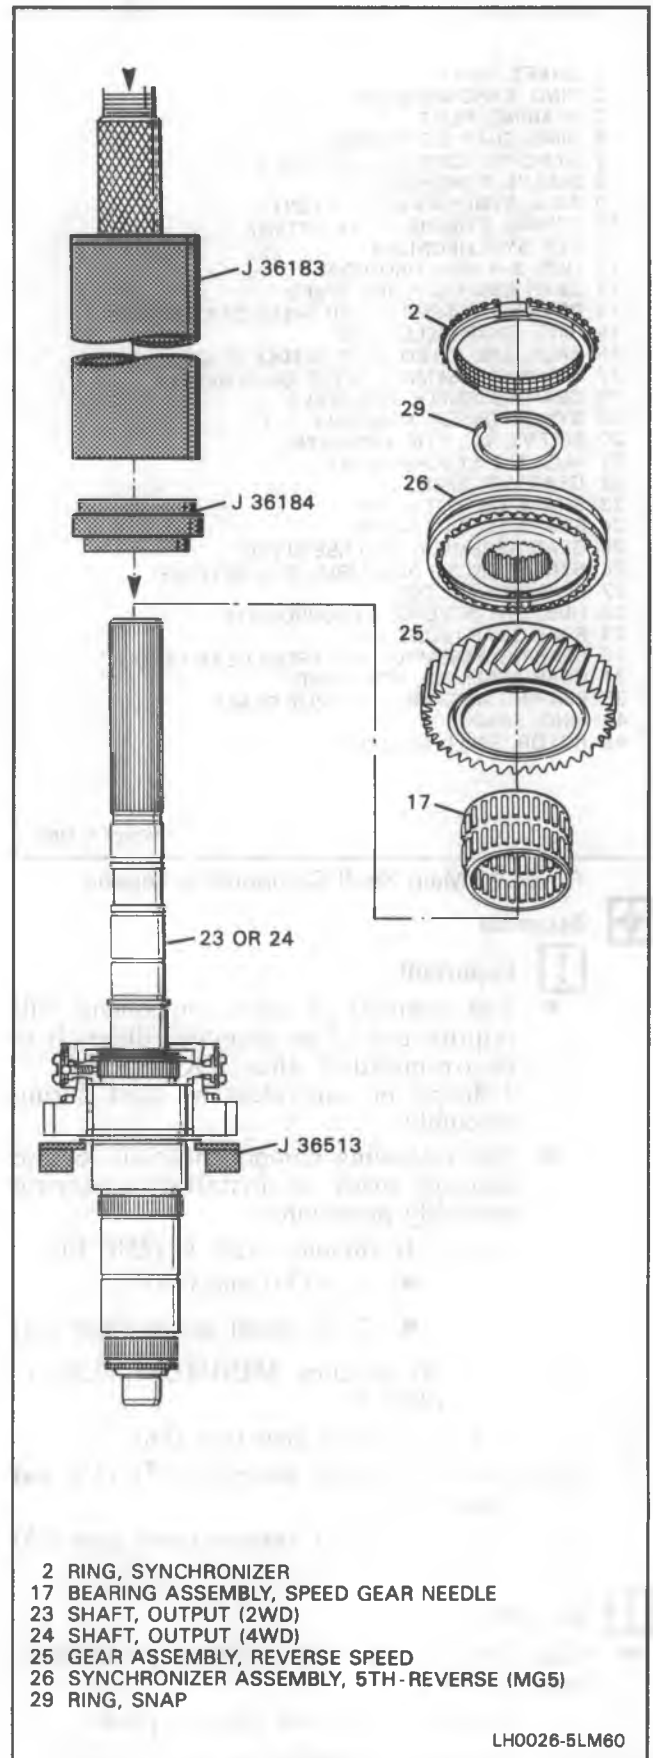
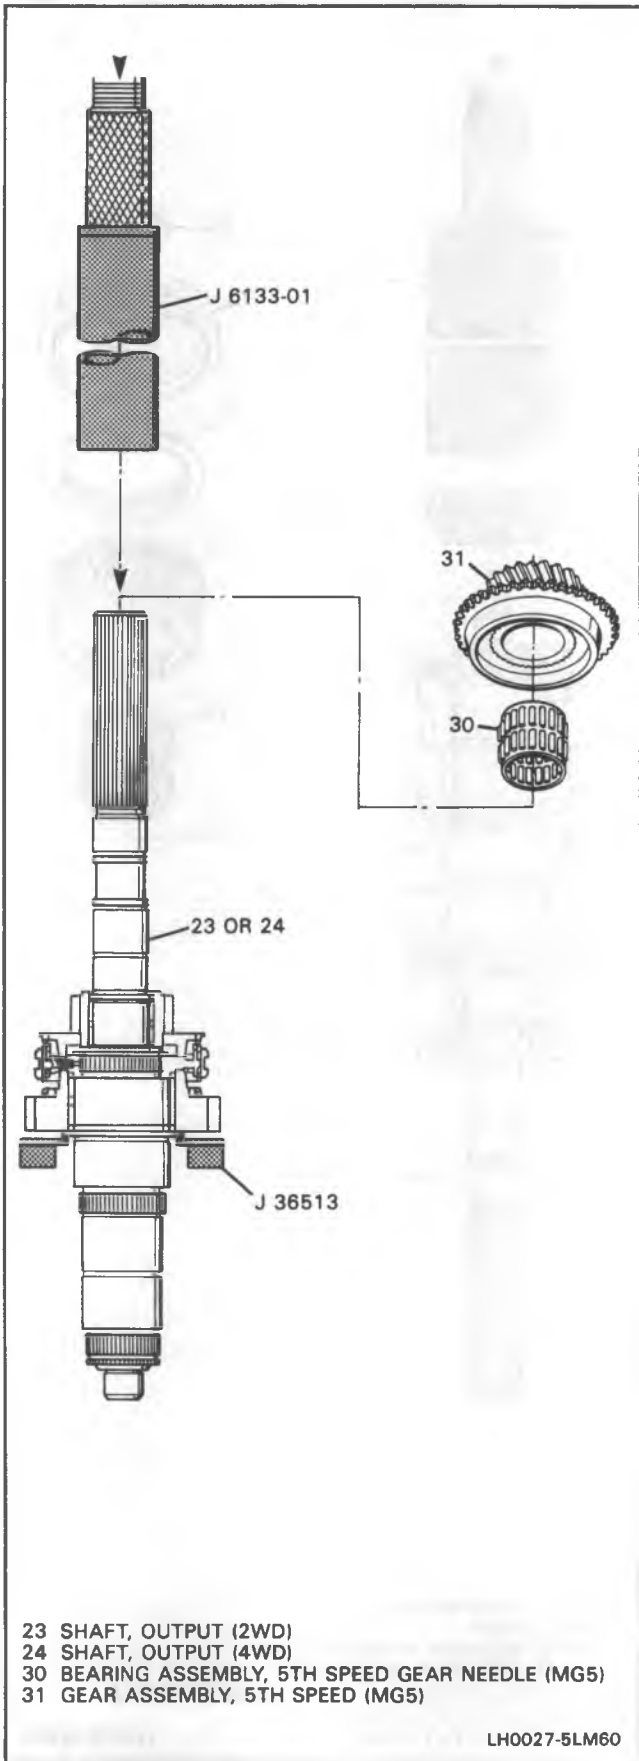

Figure 25 Reverse Gear Components Installed
Figure 26 5th Gear Installed
2. Bearing assembly (17), reverse speed gear (25) (Figure 25).
- When pressing the 5th-reverse synchronizer assembly (26):
3. 5th-Reverse synchronizer assembly (26) with synchronizer ring (2) using J 36183, J 36184, J 36513 and hydraulic press.
- With spiral lock ring (27) towards reverse speed gear (25).
4. NEW snap ring (29).
5. Bearing assembly (30) and 5th speed gear (31) (Figure 26).